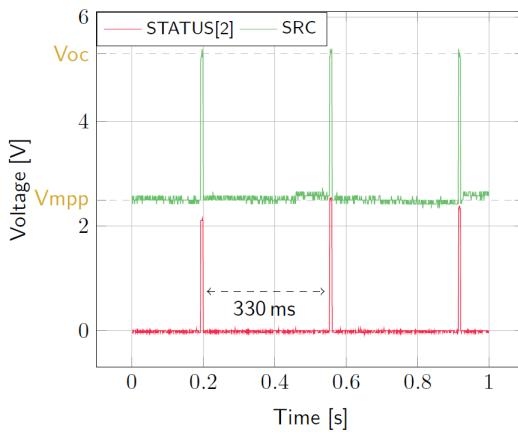

Figure 4: **SRC** and **STATUS[2]** while energy is extracted from **SRC** (BATT under V_{OVCH})
- **SRC**: regulated at V_{MPP} , which is a voltage equal to the open-circuit voltage (V_{OC}) multiplied by the MPP ratio defined in Table 4. During the MPP evaluation, the AEM30940 stops pulling current from **SRC** and thus, V_{SRC} rises to V_{OC} (see Figure 4). Note that V_{SRC} must be higher than 380 mV to allow the AEM30940 to coldstart.
- **STATUS[2]**: asserted each time the AEM30940 performs a MPP evaluation (See Figure 4).